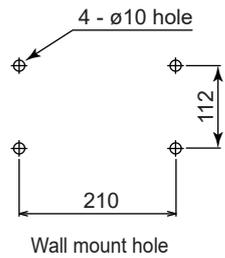

Figure 3.2 Mounting holes
- (1) Drill mounting holes through the wall as shown in Figure 3.2.